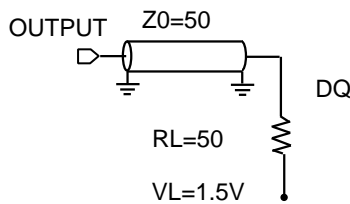
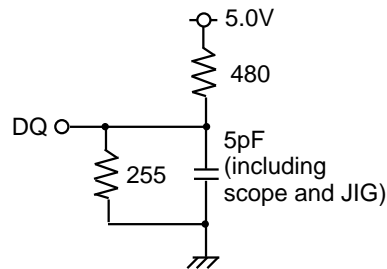

Fig.1 Output load
Fig.2 Output load for  $t_{en}, t_{dis}$
**(1) MEASUREMENT CONDITION**
- Output loads ..... Fig.1, Fig.2
4. Transition is measured  $\pm 500\text{mv}$  from steady state voltage with specified loading in Figure 2.